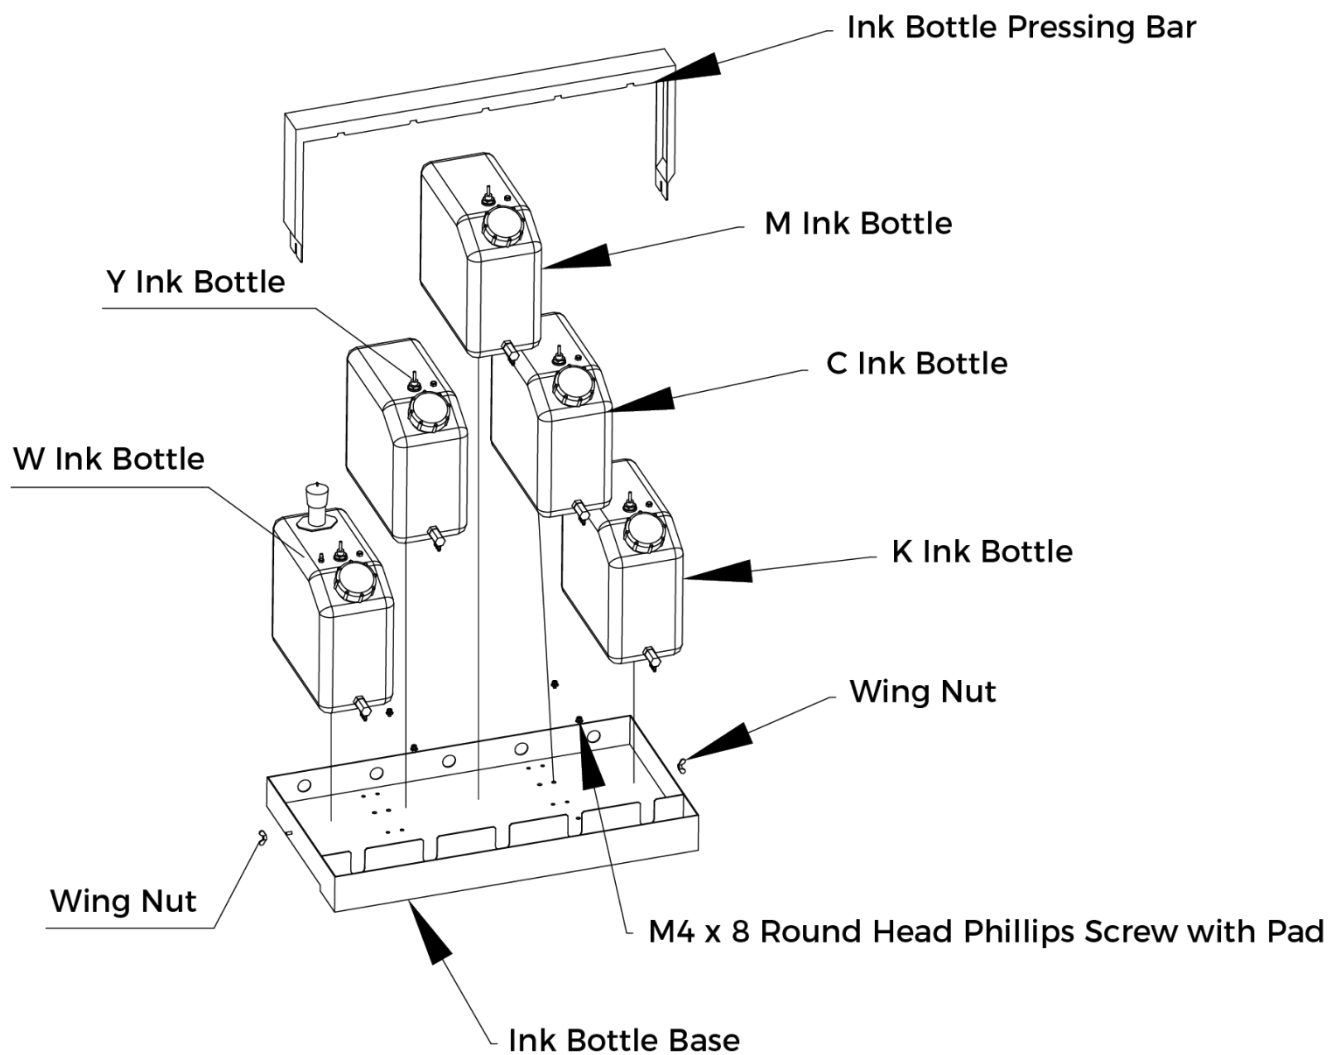
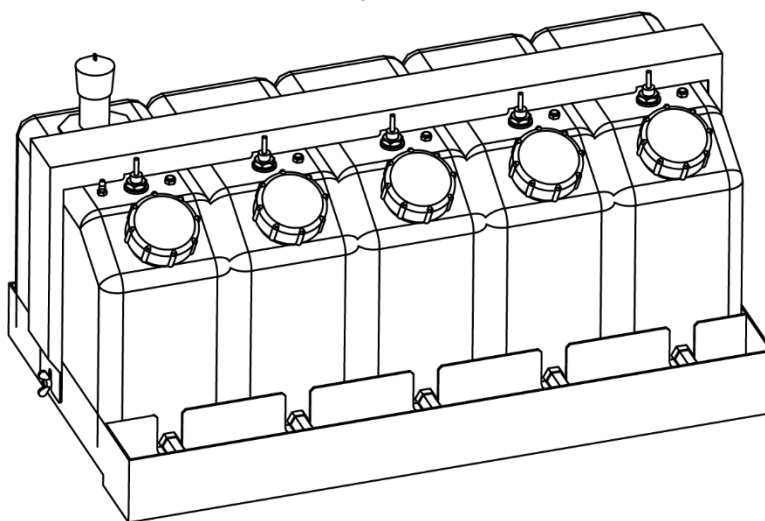

Figure 1
Figure 2
4. Press the 5 ink bottles with the ink bottle pressing bar as shown in the figure 1.
6. Figure 2 shows an example after installation finished.
Figure 1 shows the printing blank, and Figure 2 shows the deviation.